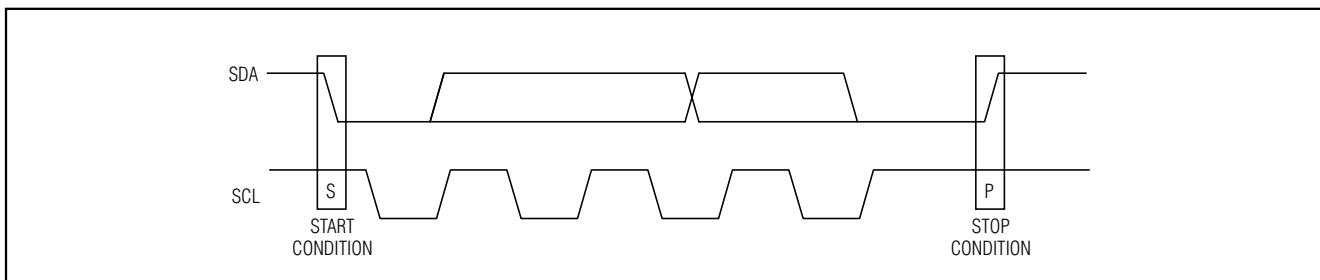
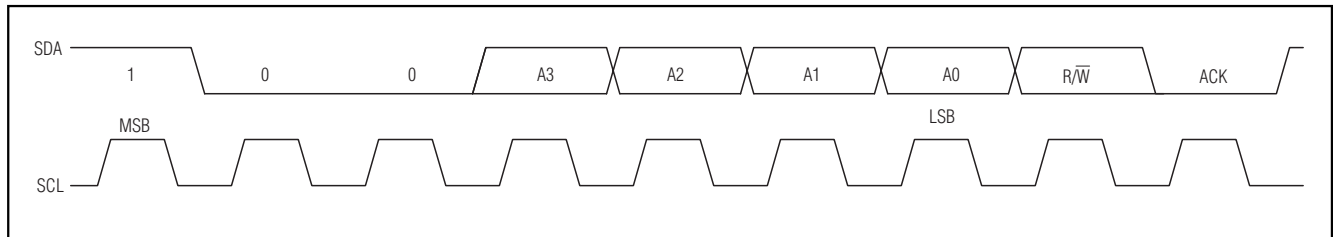

Figure 3. Start and Stop Conditions
Figure 6. Slave Address
Each transmission consists of a START condition (Figure 3) sent by a master, followed by the MAX7300 7-bit slave address plus R/W bit (Figure 6), a register address byte, one or more data bytes, and finally a STOP condition (Figure 3).
Both SCL and SDA remain high when the interface is not busy. A master signals the beginning of a transmission with a START (S) condition by transitioning SDA from high to low while SCL is high. When the master has finished communicating with the slave, it issues a STOP (P) condition by transitioning SDA from low to high while SCL is high. The bus is then free for another transmission (Figure 3).
The MAX7300 has a 7-bit-long slave address (Figure 6). The eighth bit following the 7-bit slave address is the  $R/\bar{W}$  bit. It is low for a write command and high for a read command.